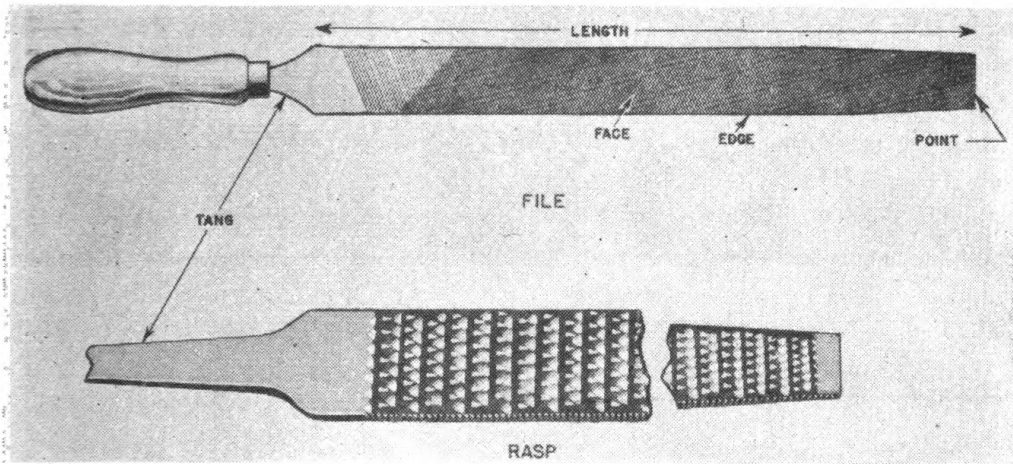

FIGURE 16.—File and rasp.
(3) Irregularly shaped work requires care and thought before clamping it in a vise. The jaws must grip on a firm, even surface. Sometimes it is difficult to find a suitable holding position. Swivel-jaw vises permit one jaw to swivel for holding tapered or irregular work; a tapered pin holds this jaw in its normal position and must be removed to allow the jaw to swivel.
(4) Round work is often clamped between straight jaws, but it is often better to fit loose jaws with V-cuts in them over the regular vise jaws. Such loose jaws are very desirable when there is enough round work on hand to justify improvising them.
(5) For clamping finished work, it is best to use loose jaws made of soft metal such as copper, brass, or lead. These jaws must be kept free of grit or they may damage the work. For holding highly polished metal, such as bearings, a piece of rawhide or soft leather laid over the vise jaws will prevent damage to the polished surface.
7. Files and filing.—*a. General.*—Files are hardened steel tools for cutting, removing, smoothing, or polishing metal. The cutting edges (or teeth) on their surfaces are made by diagonal rows of chisel cuts, as shown in figure 16. The rasp, shown in the same figure, is